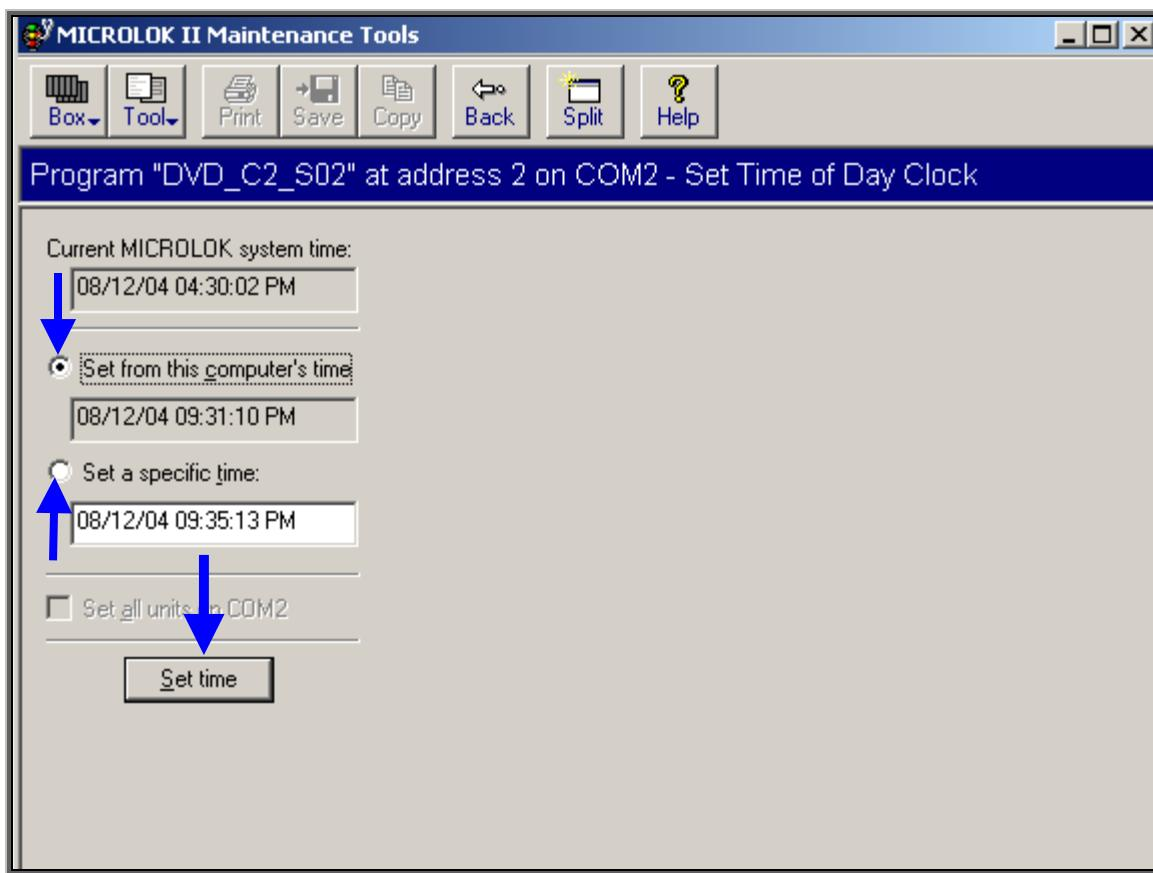

Figure-5.7.2
- ❖ The set time of day clock display will appear as shown in Figure-5.7.2.
- ◆ The top window shows the current Microlok II system time (Figure-5.7.2).